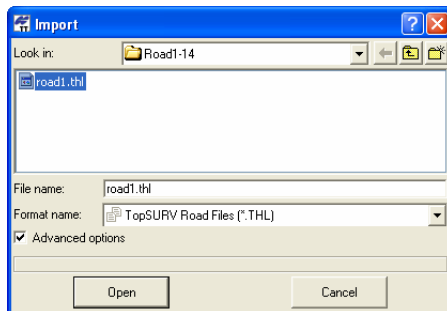

Figure 3-34. Import Road File
4. Click **Open** to import the file (Figure 3-34).